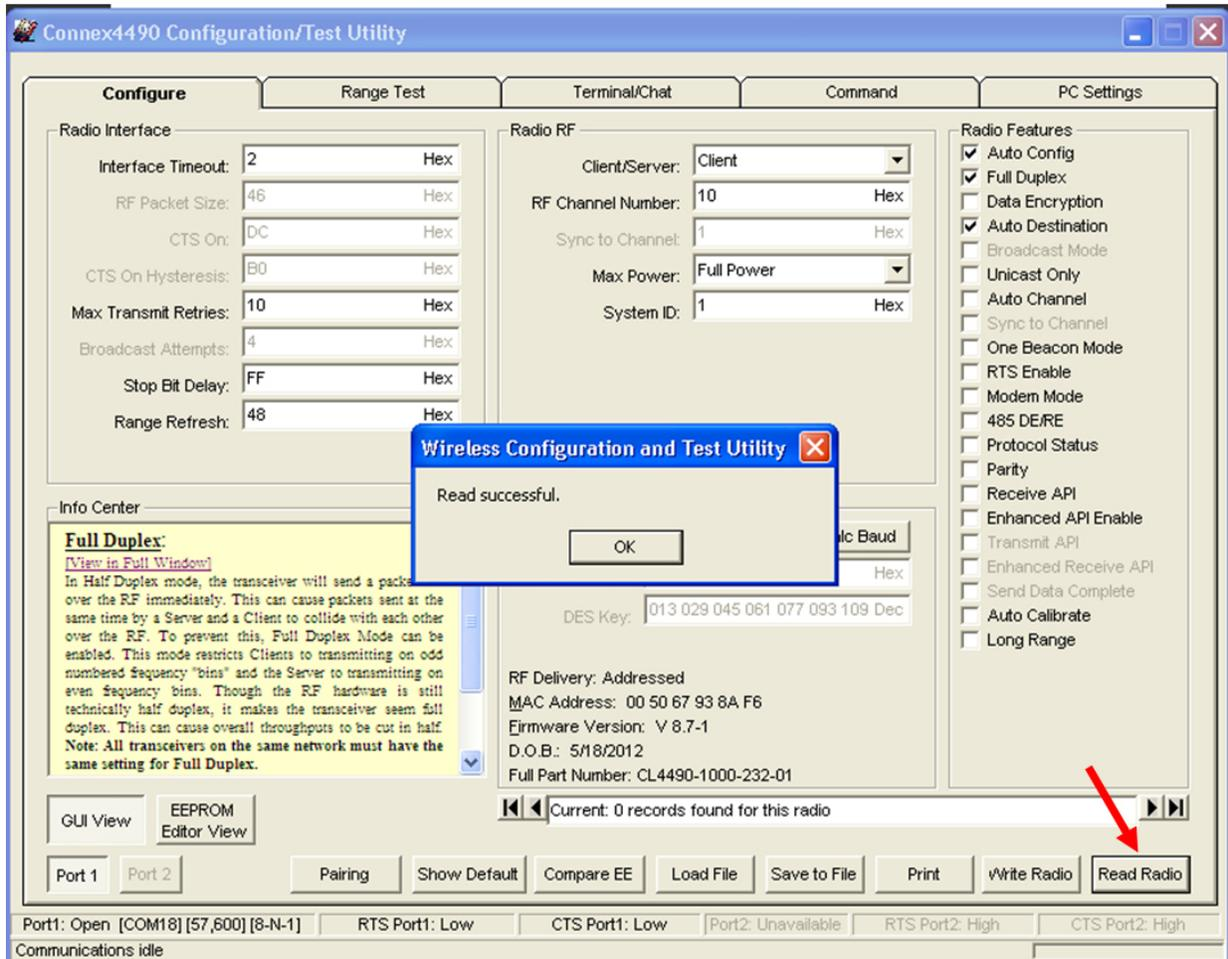

Figure 4: Configure tab - Read Successful
7. Go to the Configure tab and click the **Read Radio** button at the bottom right of the screen. A message stating “Read Successful” should appear after a successful read (Figure 4).